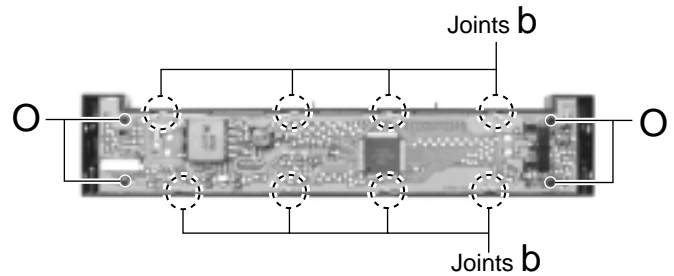

Fig.12
■ Removing the Front Board (See Fig.12)